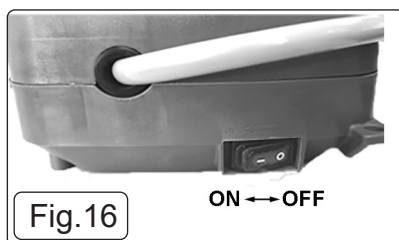

Fig.16
6.1.1. To turn the sprayer on, press down the I (ON) on the power switch (fig 16).
6.1.2. To turn the sprayer off, press down the O (OFF) on the power switch (fig 16).